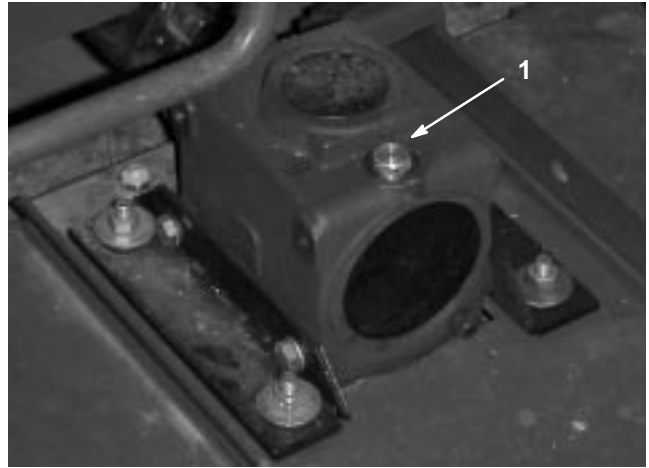

Figure 23
2. Position the machine and cutting unit on a level surface and lower the cutting unit. Remove the dipstick/fill plug from the top of the gear box (Fig. 23) and make sure that the lubricant is between the marks on the dipstick. If the lubricant level is low, add SAE 80–90 wt. gear lube until the level is between the marks.
- Position the machine and cutting unit on a level surface and lower the cutting unit. Remove the dipstick/fill plug from the top of the gear box (Fig. 23) and make sure that the lubricant is between the marks on the dipstick. If the lubricant level is low, add SAE 80–90 wt. gear lube until the level is between the marks.